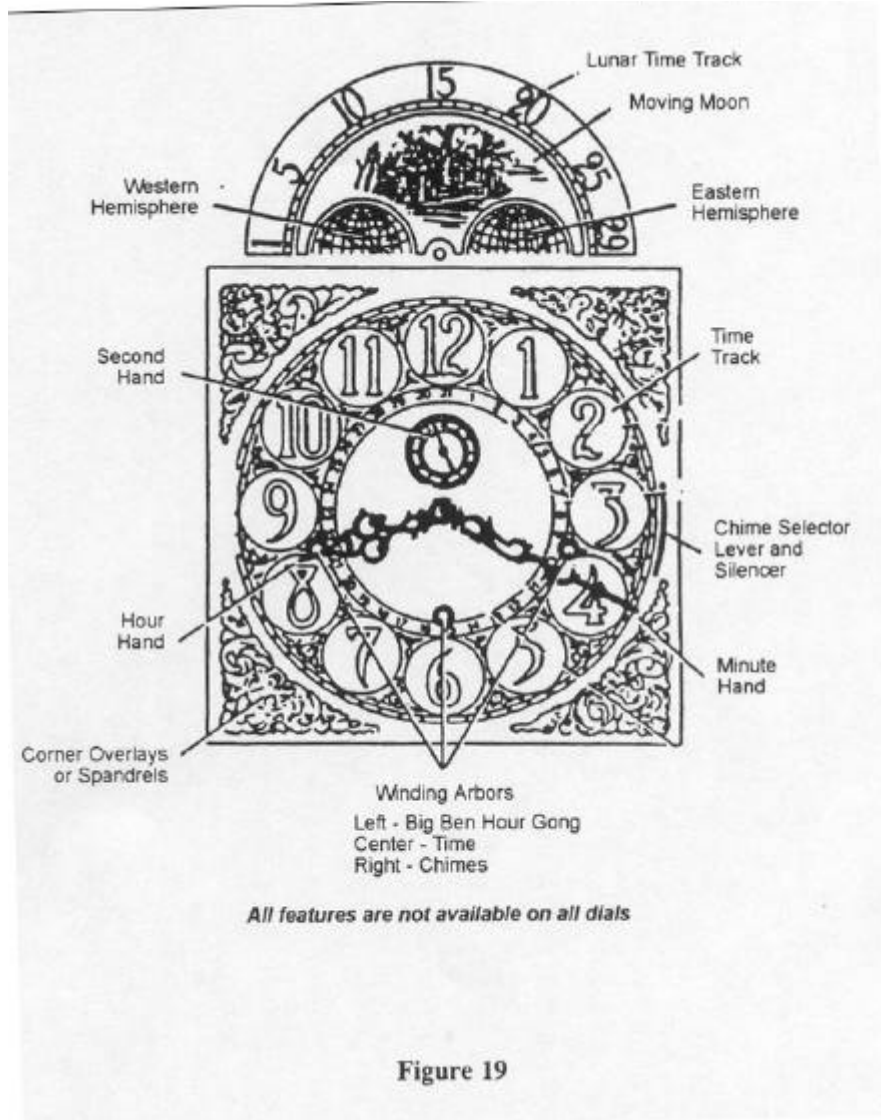

Figure 19
1. Insert the winding crank into each arbour located on the face (see Figure 19) of your clock and wind with a SLOW EVEN MOTION until the top of each weight is even with the top of the door opening.